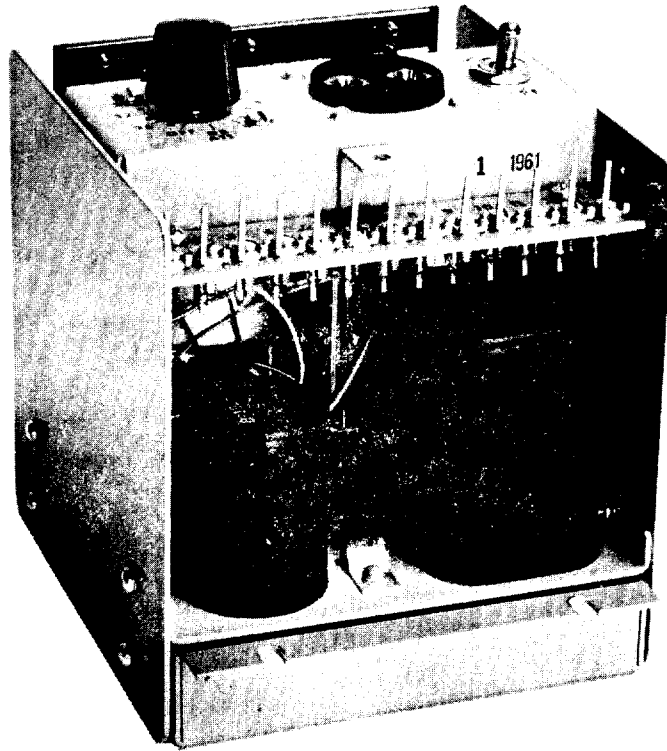

Fig. 3 – View of L1 Amplifier with Dust Cover Removed
1.15 Figs. 3 and 4 show a view of the L1 and L2 Amplifiers with the cover removed. The photographs show the location of the vernier gain adjustment in back of the monitoring jacks, the attenuator, power switch and terminal strip. The L3 Amplifier appears the same as the L2 Amplifier.